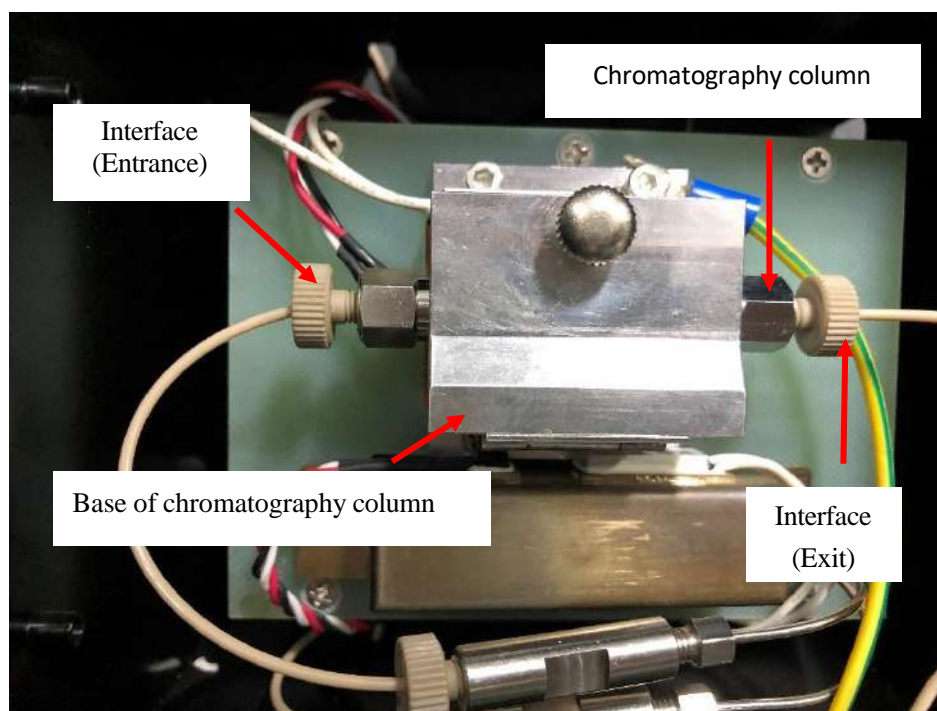

Figure 3-1 Temperature control box for chromatography column
1. Open the left front door of the analyzer, press the front lock of the temperature control box to the left and pull the temperature control box outward to expose the chromatography column (Figure 3-1).